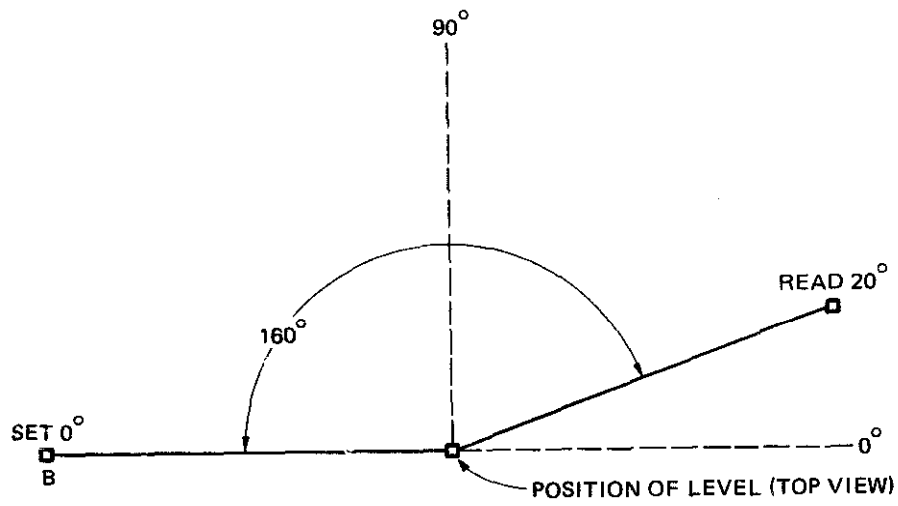

Fig. 5-44 Measuring an angle greater than 90 degrees
5. If the angle is greater than  $90^\circ$ , the vernier will travel out of the original quadrant as shown in figure 5-44. The reading  $20^\circ$  shown is measured from the direction opposite to B. Thus, the angle is  $90^\circ + 90^\circ - 20^\circ = 160^\circ$ . If the reading were  $21^\circ 35'$ , the angle would be computed as follows:  $90^\circ + 90^\circ - 21^\circ 35' = 158^\circ 25'$ .